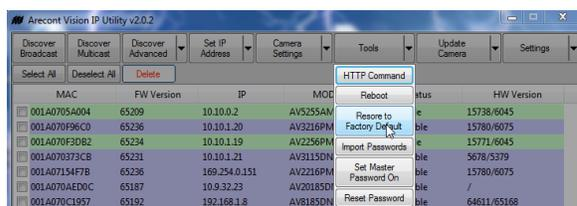

Figure 2
- b. Click on “Restore To Factory Default” as seen in Figure 2